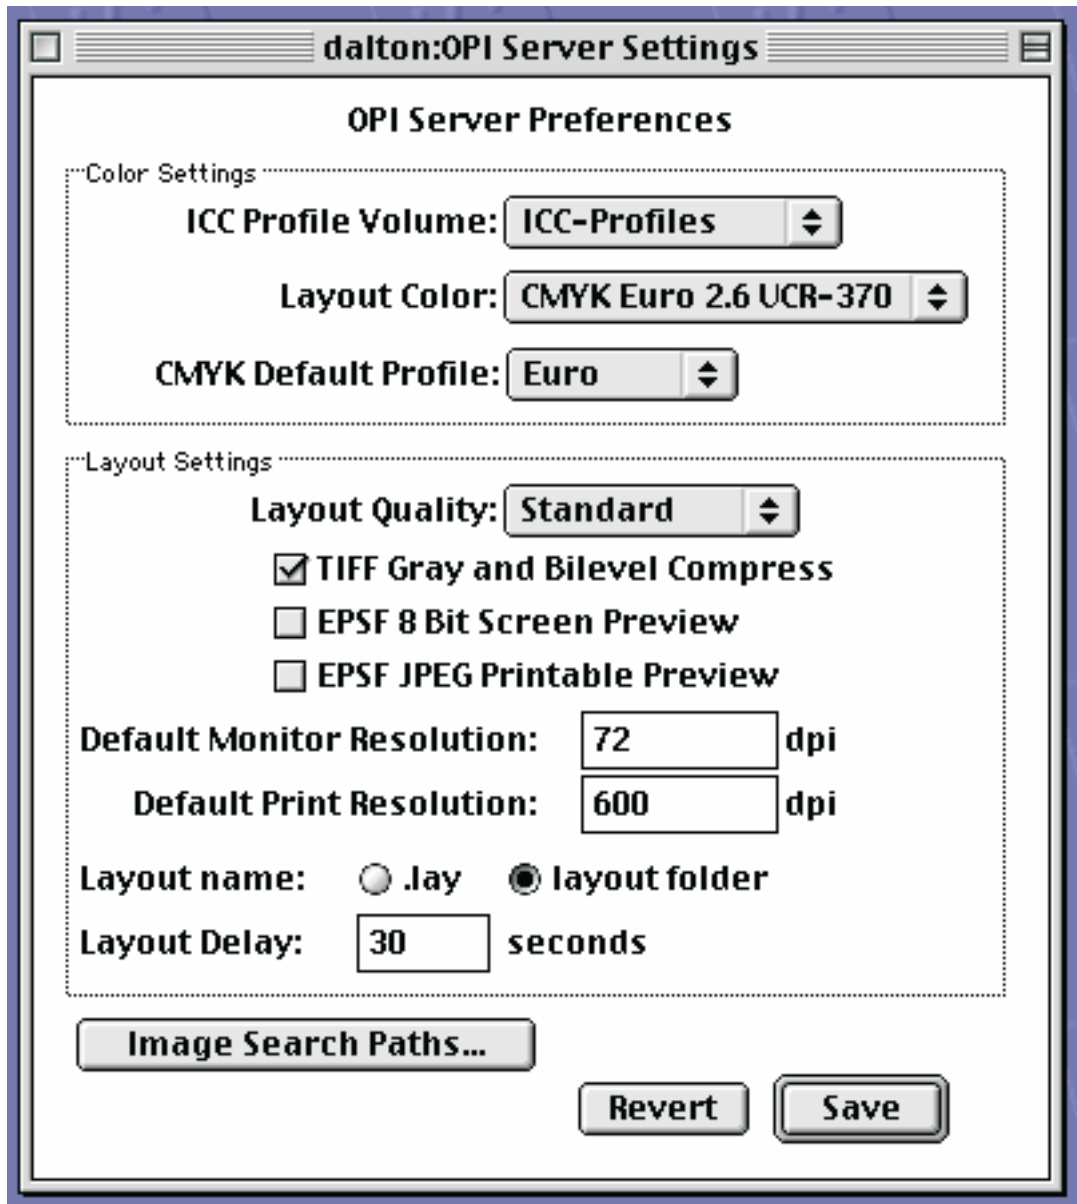

Figure 36. OPI Server Settings window
5. Once you have created the print queue, use the **Lists->OPI/Server Settings** path on the main menu to display the layout and color settings. Usually the default values are sufficient. From the window displayed in Figure 36 on page 147 below, select a name for your print queue and take the defaults before pressing the **Save** button.